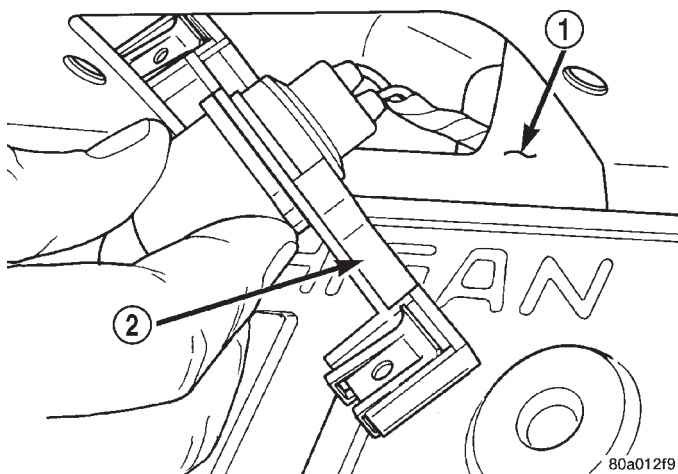

Fig. 13 License Plate Lamp
(3) Position the lamp (Fig. 13) and install retaining screws (Fig. 12).